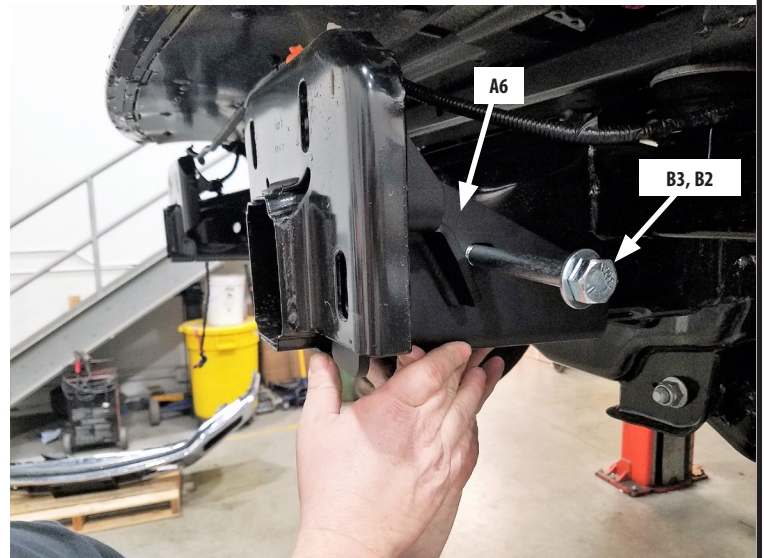

Figure 11
14. Hold left hand bottom frame bracket (A6) in place, using washer (B3) on bolt (B2). **Bracket will hang in place until fully secure. Do not tighten at this time.** Figure 11.